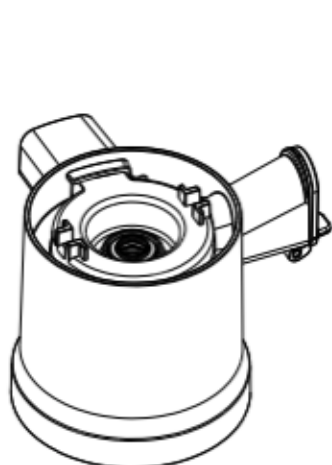

Fig 13a
- Turn the hopper upside down. Push the seal ring out with your thumb (Fig 13a) and wash with water.